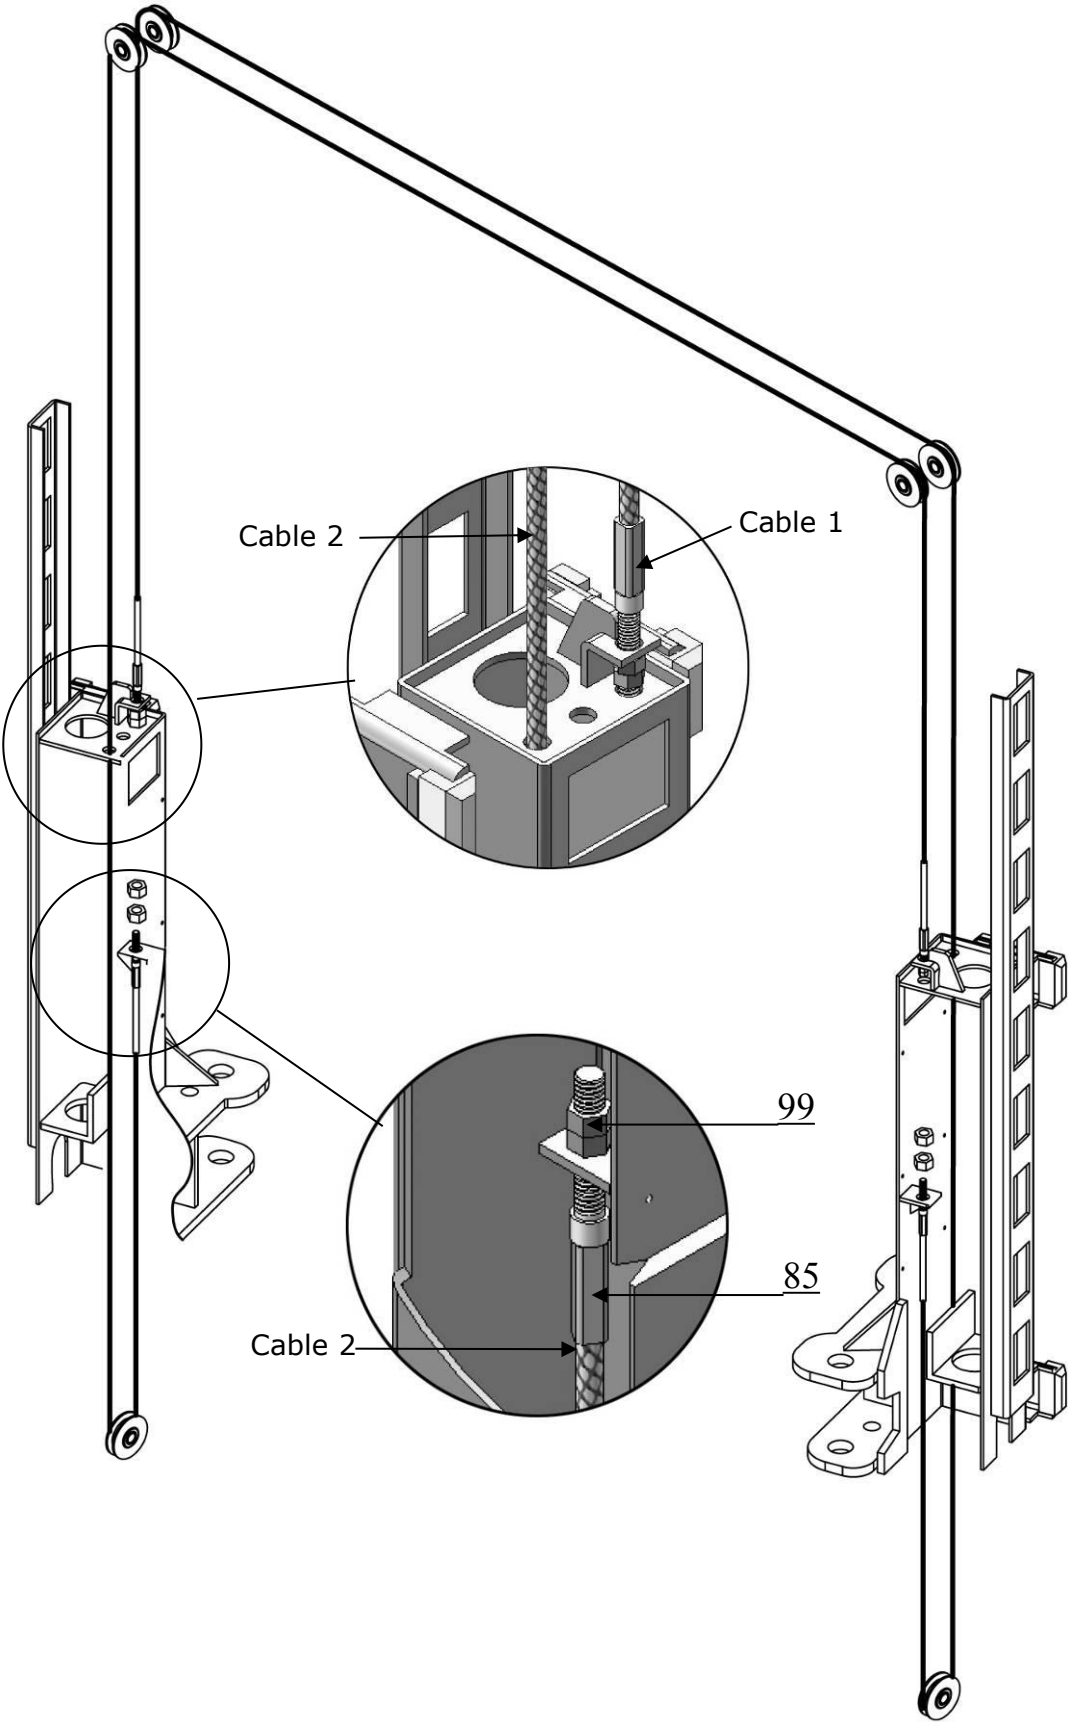

Fig. 27
2.2 Cable connection for high setting (See Fig. 27).